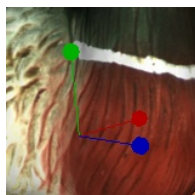

Figure 8.51: Scaling control
- Drag the origin of the control (Figure 8.51) or either of its round ends in the 3D View window.